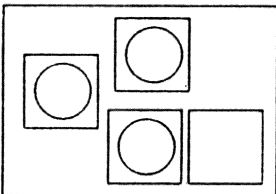

Figure 1 PGAs on a Module
- A. Figure 1 is an example of a typical module that contains Pin Grid Arrays (PGAs).